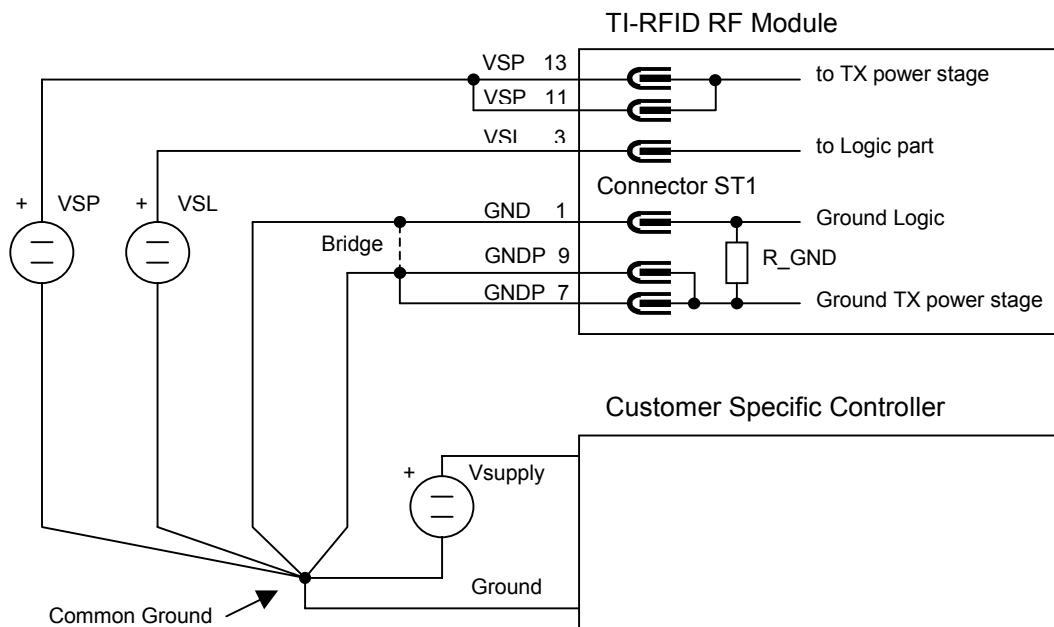

Figure 6: External Ground Connection (GND to GNDP)
1. A high resistivity of the GNDP pins could cause a voltage drop across these pins, due to high transmitter power stage current (this does not apply to the supply pins of the logic section). If the grounds were connected to each other internally, this would also lift the internal logic ground and cause logic level compatibility problems with the Control Module (see Figure 6).
2. In order to provide greater flexibility when using long supply lines. Long VSP supply lines between the RFM and the Control Module cause a voltage drop across this supply line (again due to high transmitter power stage supply current). This voltage drop would also lift the logic ground and cause logic level compatibility problems with the Control Module. This can be avoided by connecting the grounds externally in any of three different ways (see also Figure 6) as described below:
- For cable lengths of up to 0.5 m between RFM and Control Module, the RFM ground pins GND and GNDP must be connected at the Control Module, as shown in Figure 6. The grounds for the VSP, VSL and the Control Module supply are connected together at a common ground. Alternatively, if the voltage drop across the VSP supply line is less than 0.5 V (likely in this case), the ground pins GND and GNDP may be connected together at the RFM. If the system has a TI-RFID Control Module, the RFM ground pins GND and GNDP are already connected together correctly on the Control Module. When using a customer-specific controller, care must be taken to connect the RFM ground pins GND and GNDP to an appropriate ground on the controller.
- Cable lengths longer than 2 m are not recommended. If the application demands cabling longer than 2 m, the logic signal connections between the RFM and the Control Module should be done via a differential interface (for example RS422). Due to different ground potentials at different locations it may also be necessary to provide galvanic separation of the interface signals by, for example, opto-couplers. In this case, to avoid problems with difference voltages between GND and GNDP, these pins must always be connected directly at the RFM. As shown in Figure 6, a shorting bridge is necessary for this purpose, situated as close as possible to the RFM.